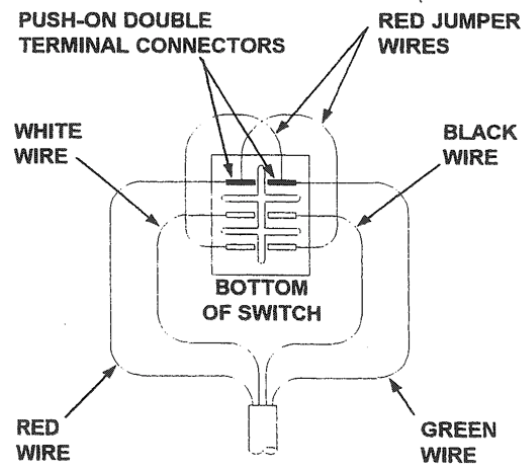

FIGURE 15
**CONTROL BOX WIRING DIAGRAM (SEE FIGURE 15)**
If the control box switch needs to be replaced or rewired, refer to Figure 15 for proper wiring connections.